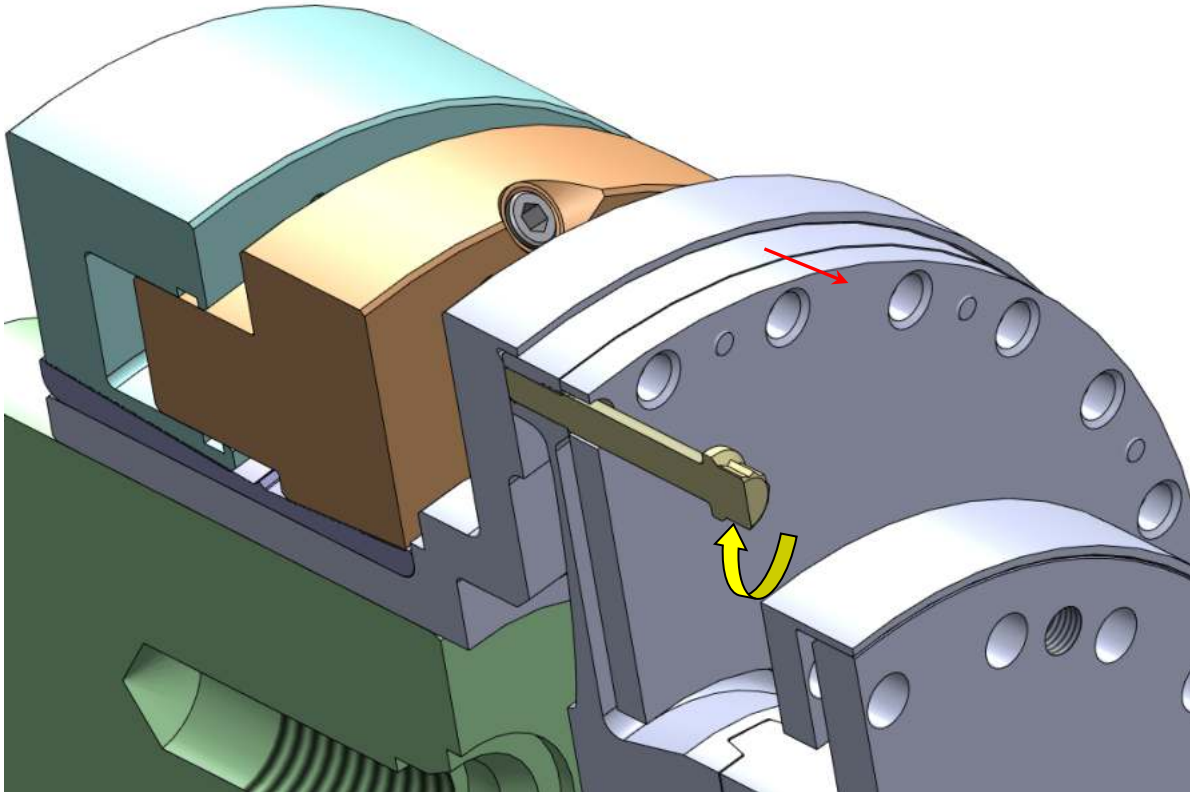

Figure 19 – Use of Jacking Bolts to Disengage Pilot Fit
5.2.3 While supporting the flex assembly weight, turn the bolts in an even criss-cross pattern to dis-engage the assembly from the hub, as shown in Figure 19. Remove the bolts from the taps.